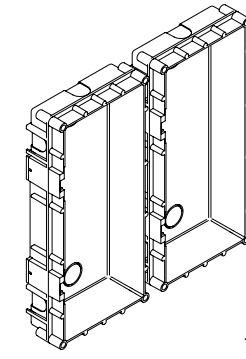

fig. 16
- Hook the spacers to first back box then hook the second back box to obtain the result shown on **Fig. 16**;